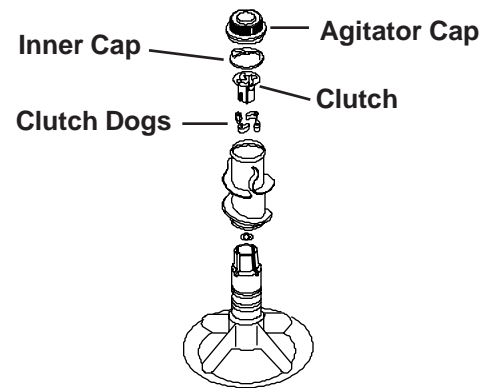

Fig. 3-15
3. The Surgilator Agitator is removed by first pulling off the agitator cap and inner cap. Then unscrew the 7/16" bolt found under the cap and pull straight up on the two-piece agitator assembly. The clutch and clutch dogs that provide the Surgilator action are found in the upper portion of the agitator assembly. (Fig. 3-15)